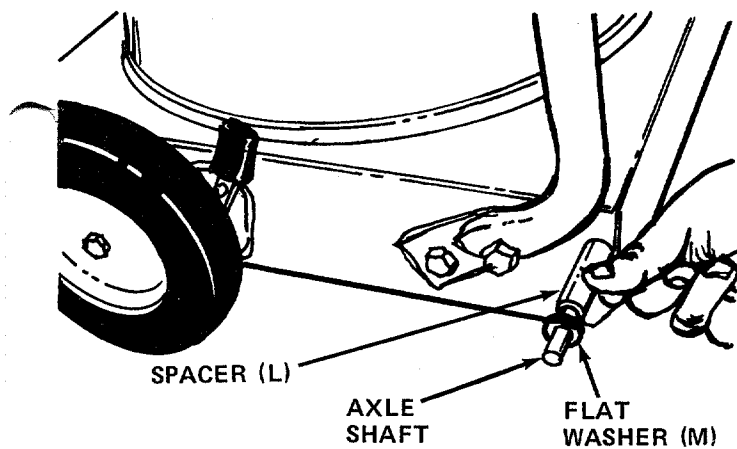

FIGURE 4
- Slide spacers (L) onto the axle shafts. Place one flat washer (M) on each shaft next to the spacers. See figure 4.